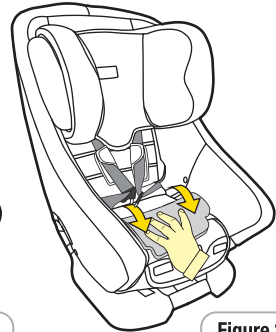

Figure 2
Step 2: Fold the cover and padding forward (refer Figure 2).